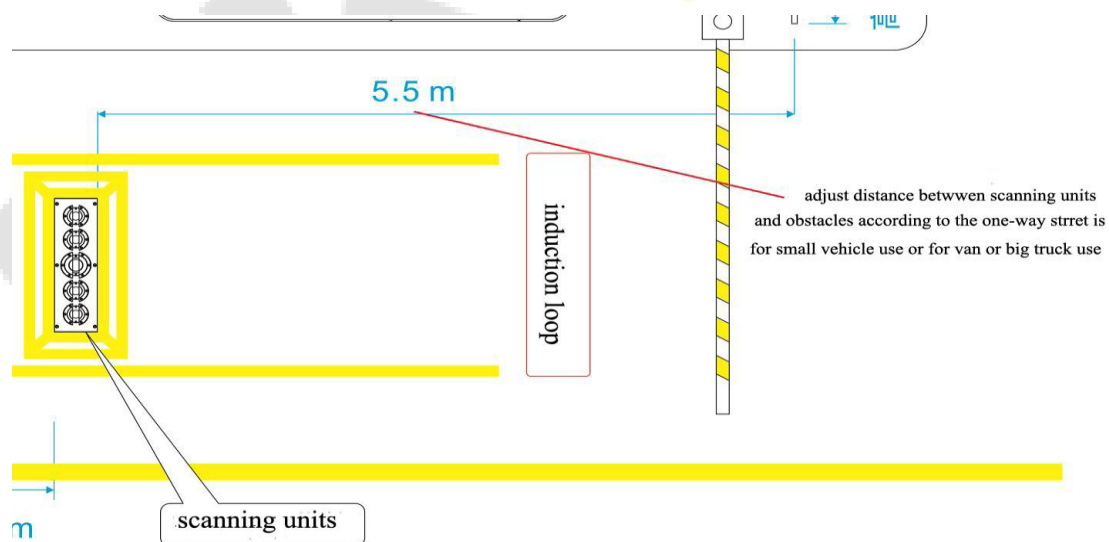

Figure 2-5
5. The scanning units should be installed in the middle of one-way street. If this one-way street is only for small vehicles use, and there have car barrier, bollards system, anti-collision wall, etc as well. The distance between scanning units and obstacles should be over 5.5m. If the one-way street is for van and big truck use, the distance should be more far away. In principle, should make sure the distance between the scanning units and obstacles can hold one vehicle. See Figure 2-5.